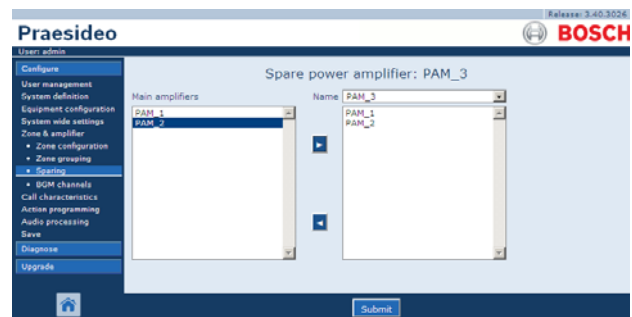

figure 45.13: Sparing, step 3
- 3 Select the main amplifier that must be assigned to the spare amplifier from the left box (see figure 45.13).